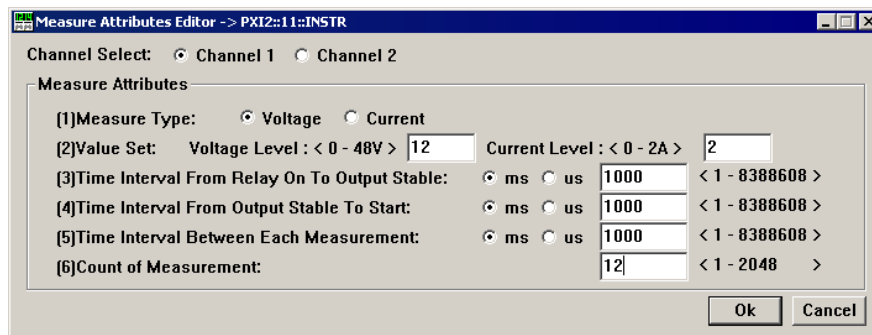

Figure 4-24 Editing Voltage Measurement of Channel 1 for Example 1
Step2: At the menu bar, select **Editor→Measure** to edit the attributes for this measurement set as shown in Figure 4-24, and then click on the “Ok” button.